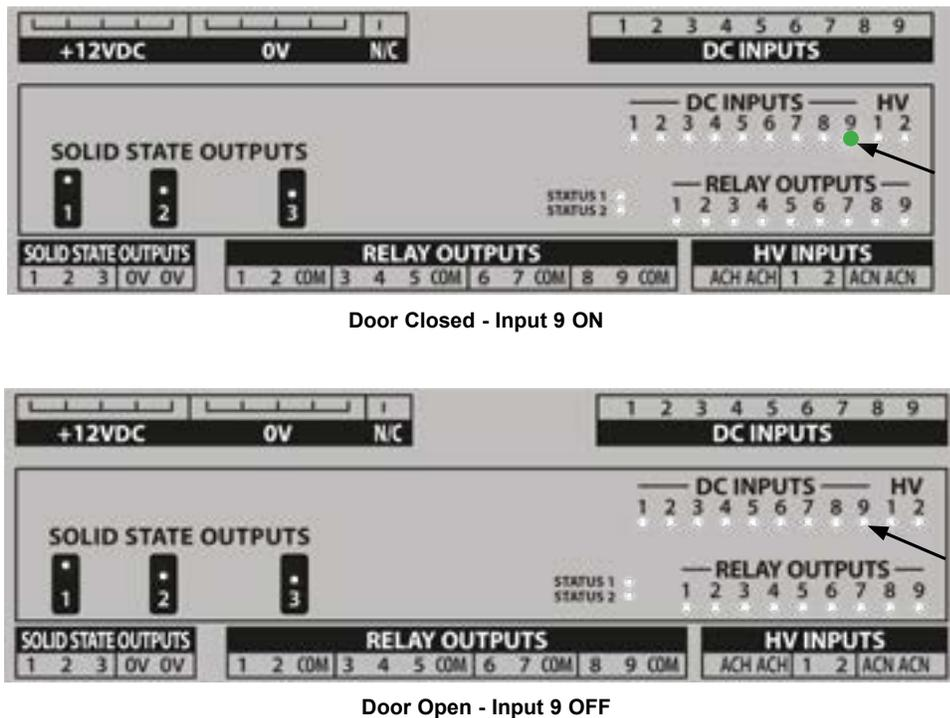

Figure 44
- Large Terminal Board: DC Input #9 OFF (Figure 44)
- Large Terminal Board: DC Input #9 ON (Figure 44)